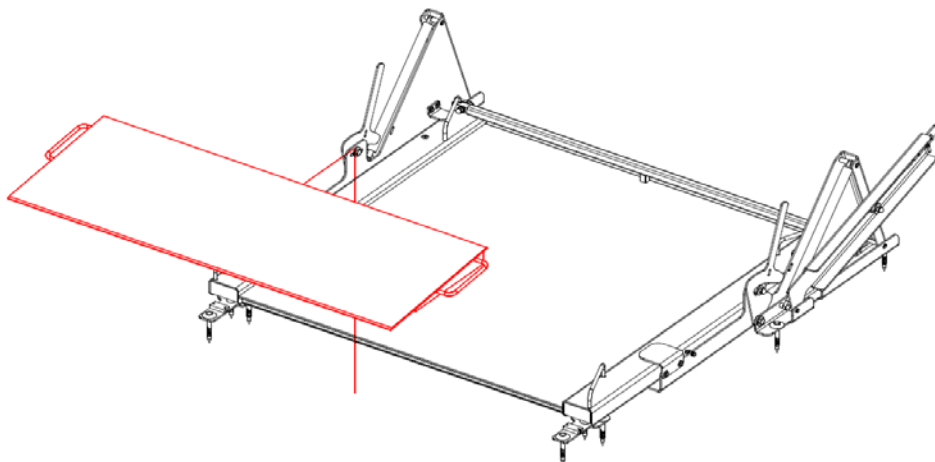

Fig.16. Ramp assembly 1
13. Assemble the ramp (Figure: 16, 17).